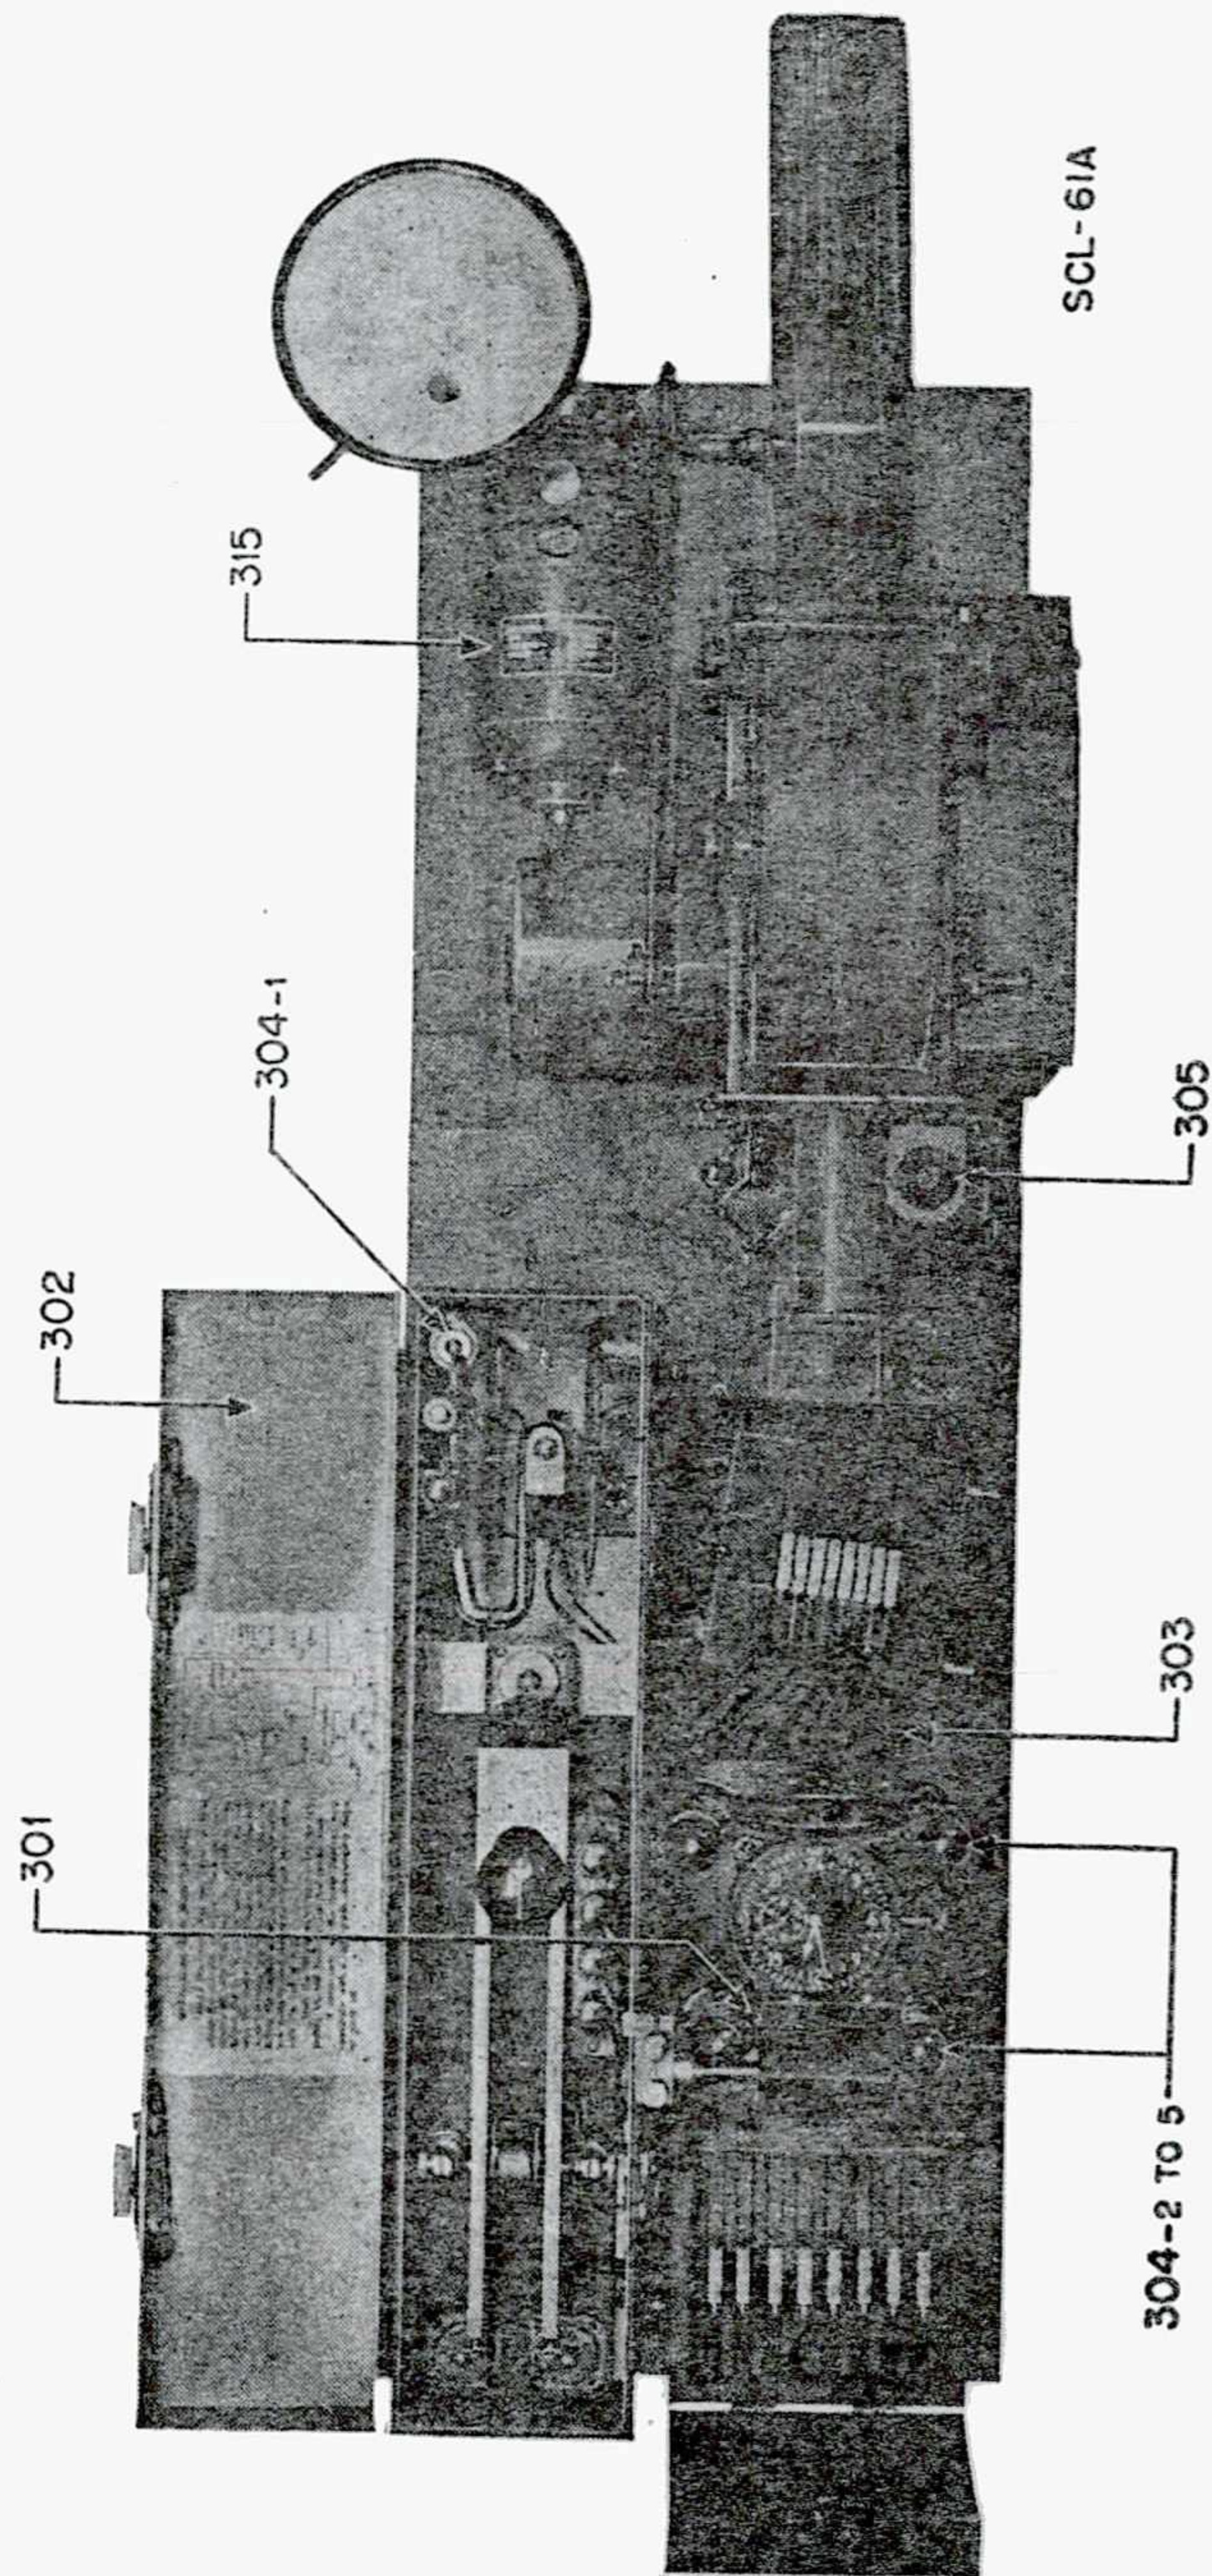

Figure 2.—Oscillograph Equipment IE-14(*)—top view with covers removed.
(1) Oscillograph Equipment IE-14-(*), includes the framework and equipment mounted on its upper portion (figs. 2 and 3). This equipment consists of the timing unit, the galvanometer magnet, the identification panel, suitable lamps and optical system, the automatic camera with magazine, the fixing tray, and covers to prevent entrance of stray light. An operating panel is located on the lower front part of the equipment.